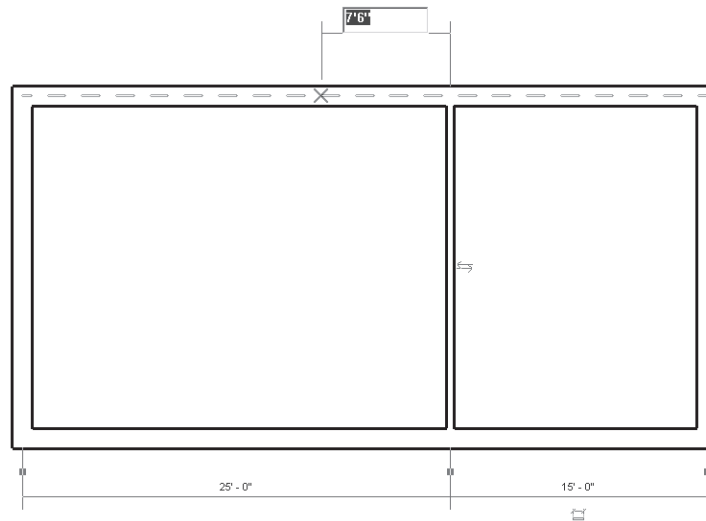

Figure 3-54 Specifying the starting point of the second interior wall
1. To sketch the second interior wall, move the cursor to the upper endpoint of the interior wall and then move the cursor horizontally toward the left. Enter **7'6"**, when the temporary dimension and the intersection object snap appears, as shown in Figure 3-54.